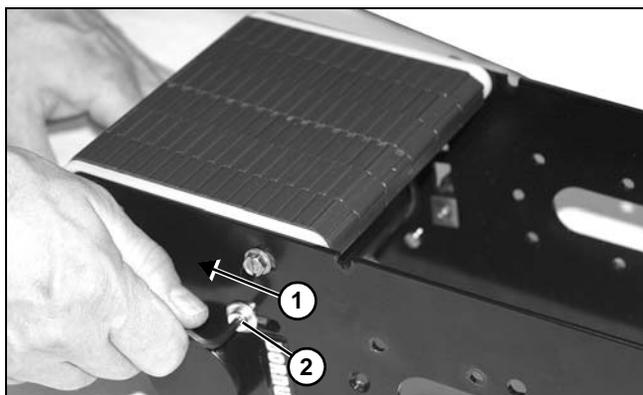

Figure 140
8. Slide assembly (Figure 140, item 1) within slot to remove excess slack from belt, and tighten socket head screw (Figure 140, item 2).